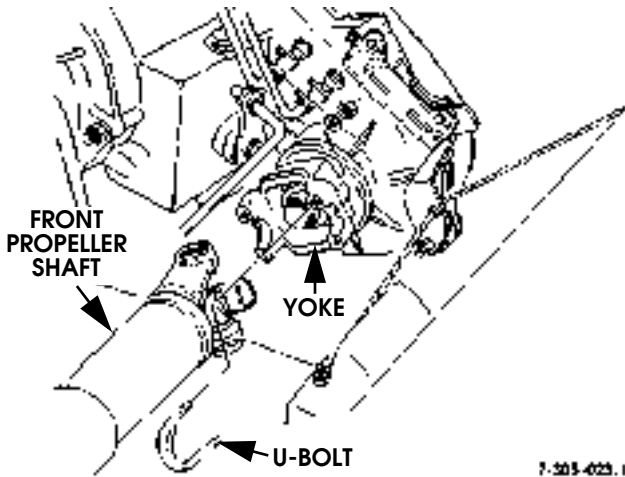

Figure 5-76: Disconnecting/Connecting Front Propeller Shaft
2. Disconnect front propeller shaft at yoke. Retain U-bolts and nuts (Figure 5-76).